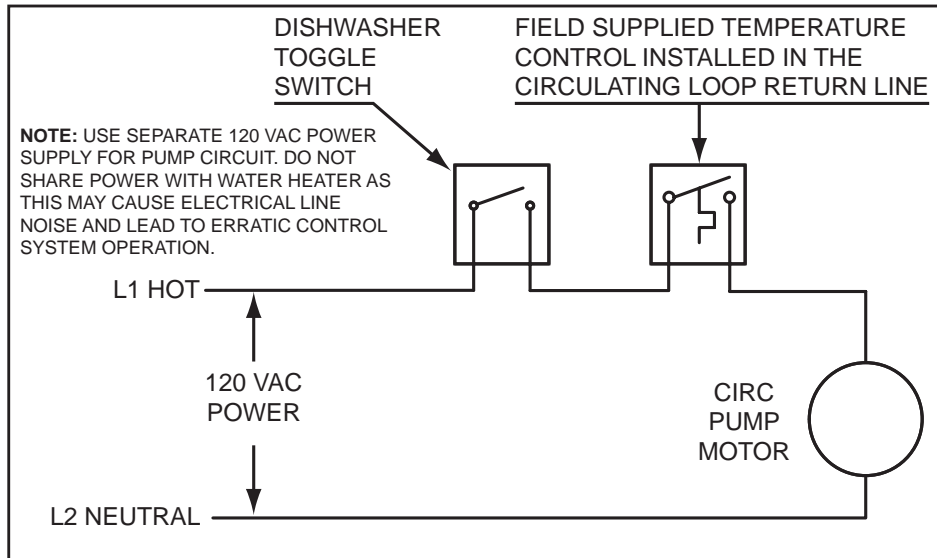

Figure 69. Circulating Pump Wiring Diagram - Dishwasher Loop Toggle Switch
7. If a pump is being installed in a recirculation loop between the water heater and a commercial dishwasher wire according to Figure 69 (page 71).
7. If a pump is being installed in a recirculation loop between the water heater and a commercial dishwasher wire according to Figure 69 (page 71)..